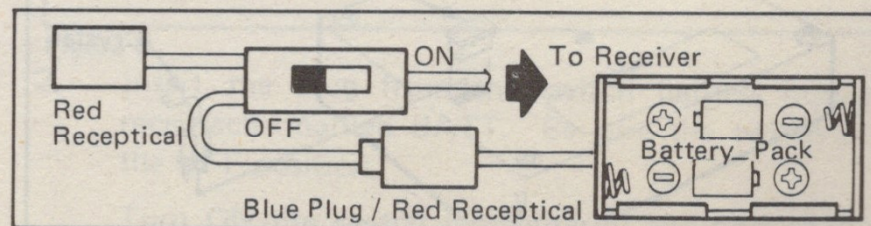

Figure 3.
4. The other four cells can now be installed in the receiver power pack. Note that the proper polarity of the cells are indicated on the plastic case. See Figure 3. Again the minus (-) end always goes toward the spring.